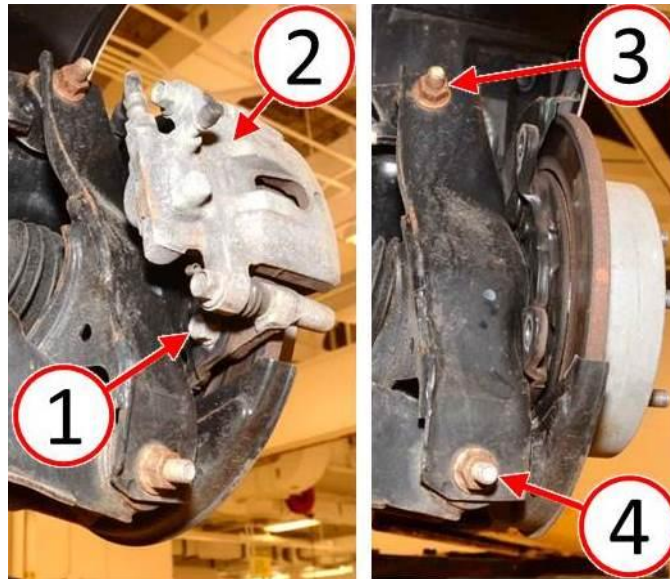

Fig. 1 Remove Rear Brake Caliper
3. Remove and discard the two bolts securing the disc brake caliper adapter to the brake backing plate (Fig. 1).
4. Secure the brake caliper with caliper adapter out of the way (Fig. 1).
5. Remove and discard the nuts securing the upper and lower control arms to the trailing link (Fig. 1). Do not remove bolts during this step.